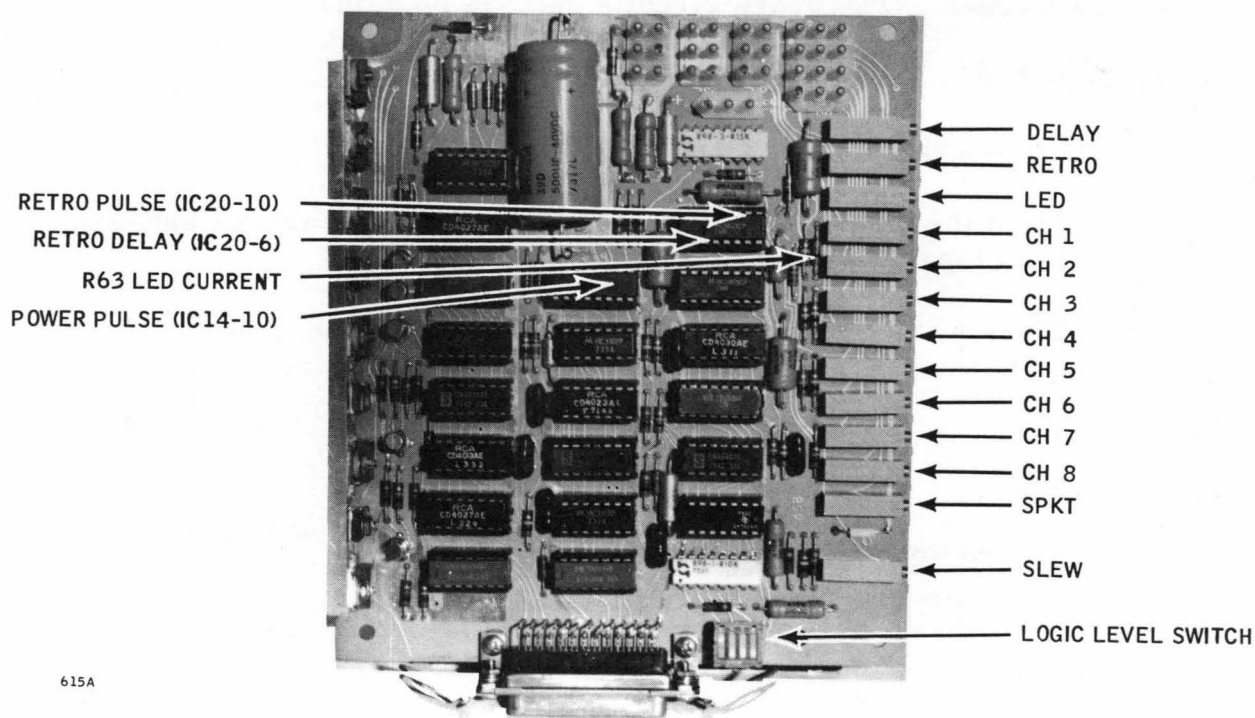
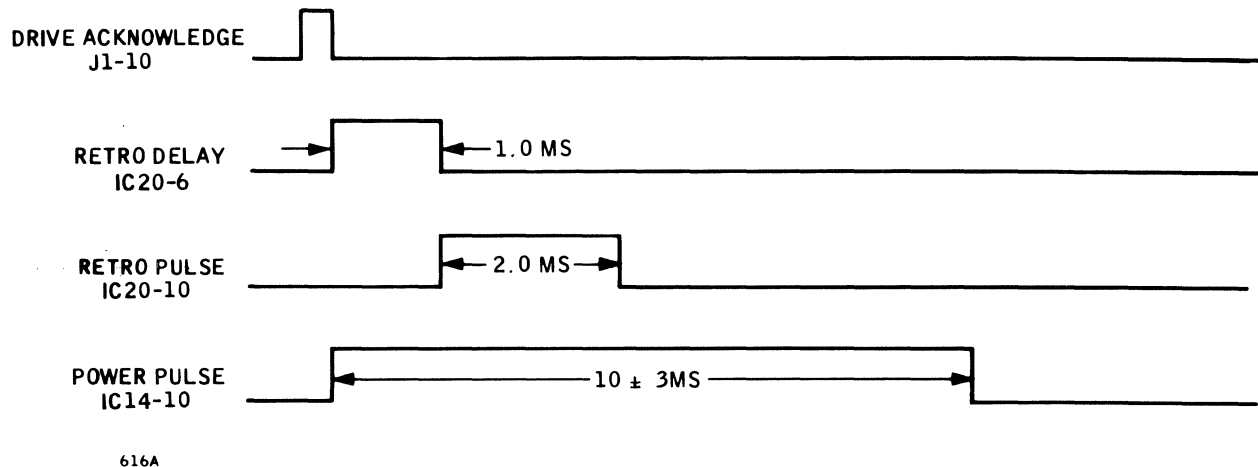

Figure 4-7. Positive Logic PCB Potentiometers and Test Points
Figure 4-8. Stepper Motor Driver Logic Waveforms
- a. On the positive logic PCB (figure 4-7), adjust the LED potentiometer for 2.5 Vdc measured across resistor R63.
- a. Insert the translucent tape standard (item 7 of table 4-2) between the LED and phototransistor arrays.
- b. On the positive logic PCB (figure 4-7), adjust the SPKT potentiometer for 3.7 Vdc at J5-9.
- a. Load the checkerboard tape loop (item 4 of table 4-2) and operate in the slew mode.
5. Stepper Motor Driver Logic Adjustments (figure 4-8)
- a. Load the metalized-Mylar tape loop (item 5 of table 4-2) and operate in the step mode.
- b. On the positive logic PCB (figure 4-7), adjust the DELAY potentiometer for a RETRO DELAY pulse width of 1.0 milliseconds.